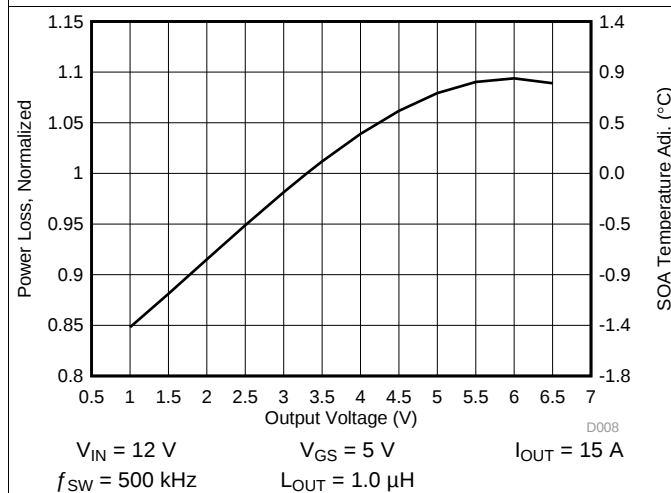

Figure 8. Normalized Power Loss vs Output Voltage
- Normalized Power Loss for output voltage ≈ 1.08 (Figure 8)
- SOA adjustment for output voltage $\approx 0.7^\circ\text{C}$ (Figure 8)